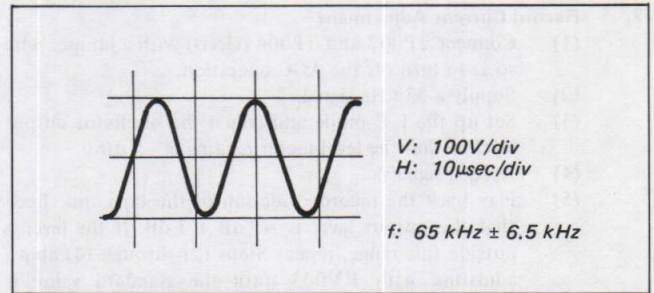

Fig. 5-5-1. Bias oscillator check
- (1) Set the input signal level to zero and set up the RECORD mode.
- (2) Connect a frequency counter to TP006. The reading should be 65 kHz ± 6.5 kHz. (See Fig. 5-5-1)